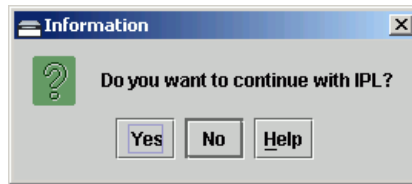

Figure 4-38 Information Dialog Box
3. Select the *IPL* option from the *Maintenance* menu. An *Information* dialog box displays (Figure 4-38).